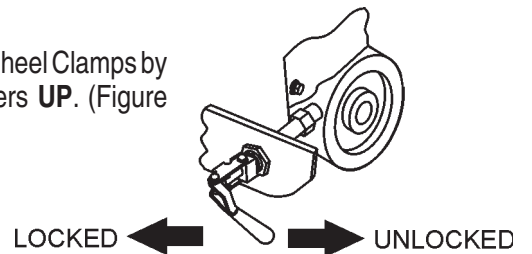

Figure 37. Wheel Clamp
2. Release Wheel Clamps by pulling levers **UP**. (Figure 37)
- Push the Wheel Clamp Levers downward to apply braking pressure to the wheels (Figure 37).
6. Slowly lower the diamond blade onto the cut line by cranking the **Raise/Lower handle** **CLOCKWISE** (Figure 37). When the handle can no longer be turned, the blade will be at its full rated depth.